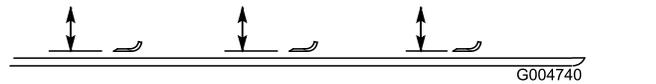

Figure 89
- Rotate the blade until the ends face forward and backward and measure from the inside of the mower deck to the cutting edge at the front of the blade (Figure 89).